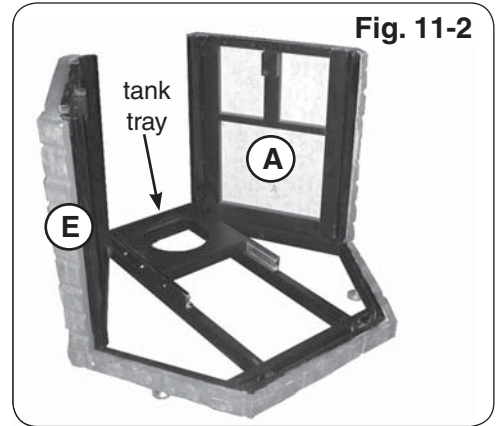

Fig. 11-2
2. Turn the base over and set the two solid brick/stackstone panels (A & E) onto the base of the campfyre, next to the tank tray (see Fig. 11-2).